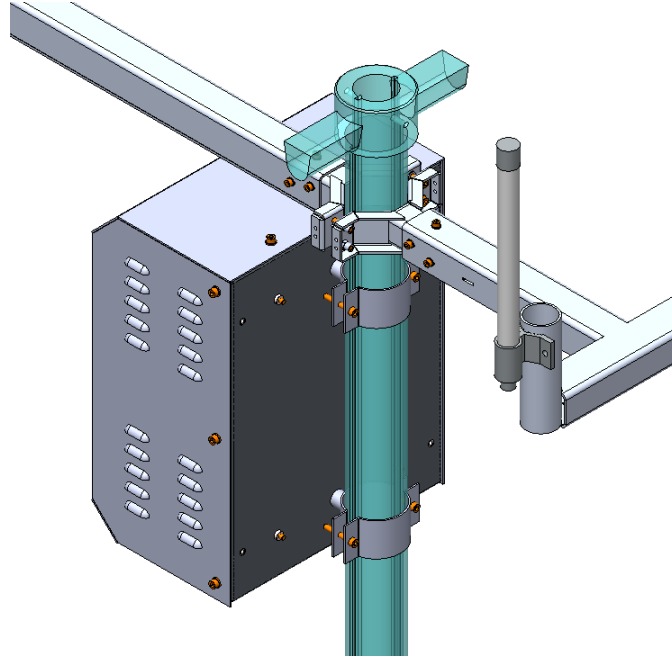

Figure 6 Attach the hold hanging (metal pole clamp) brackets to the mast
1. Attach the FTS cabinet to the mast with hold hanging (metal pole clamp) brackets, using the screws that were prepared in advance (see Table 1 and Figure 6).